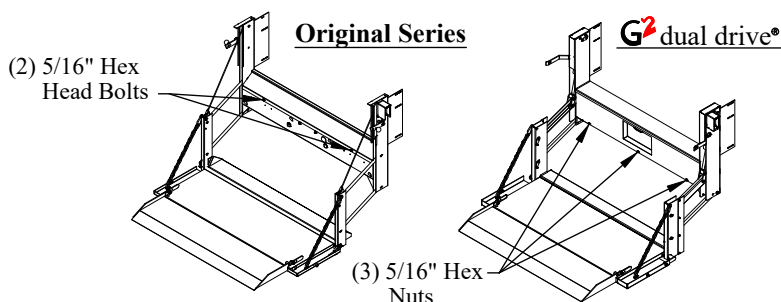

Figure 13: Box cover locations.
1. **Remove** the box cover by removing the 5/16" hex head bolts or nuts (Figure 13).